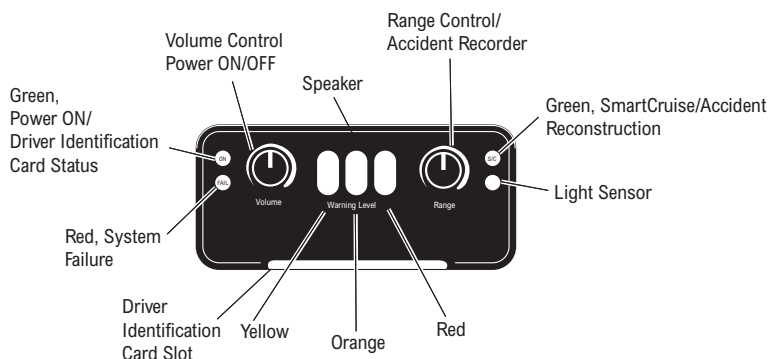

Figure 5
Green, Power-On/ Driver's Identification Card Status*	Illuminates after power is applied to the system and the power-on self test (described on page 16) is complete. The green "ON" light may blink continuously if the Driver's Identification Card is not installed, (the Driver ID Card is an optional feature) and card alarm might be enabled*. (See Figure 5)
Volume Control* and Power On/Off	When pushed in until a distinctive click is heard and/ or felt, this turns the power on or off* if enabled. Adjusts the volume of the Driver Display Unit speaker if enabled. Activates "Failure Display Mode" when the knob is pressed in and held for eight (8) seconds and then released. (See Figure 5)
Speaker	Located under the top cover of the Driver Display Unit. Sounds audible tones to alert the driver of a possible hazard. May be set to limit the volume to a minimum level*. (See Figure 5)
Range Control* and Accident Recorder*	When rotated from minimum to maximum*, and not in Bendix™ SmartCruise® system*, this control knob provides range adjustment of the first alert (2 to 3 seconds) and the second alert (1.75 to 2 seconds). Function may be configured to prevent range adjustment control* (See Figure 5). When the SmartCruise system is selected, rotation of the knob, from maximum to minimum, will change the following interval from 2.25 to 3.25 seconds. Accident reconstruction is initiated by pushing and holding this knob for five (5) seconds, thereby freezing the most recent event data in half of the allocated memory. (See “In Case of an Accident” page 26). (See Figure 5)
Red, System Failure	Illuminates when a problem has been detected in the forward looking radar system. A pattern of flashes blink out the faults that are stored in memory when activated by holding in the volume control knob for five seconds (See “Diagnostic Features”, page 27). (See Figure 5)
Green, Bendix™ SmartCruise®*/ Accident Reconstruction*	Comes on when the SmartCruise system is enabled and vehicle cruise control has been engaged. If Accident Reconstruction* has been initiated to store information, it will flash eight (8) times. After system power-up and power-on LED test is completed and if Accident Reconstruction information was previously stored, the display will flash eight (8) times. (See Figure 5)
Light Sensor	Photo sensor senses ambient lighting and adjusts intensity of the indicator lights accordingly, e.g., increases the brightness of the indicator lights during daytime hours and decreases the brightness of indicator lights at night. (See Figure 5)